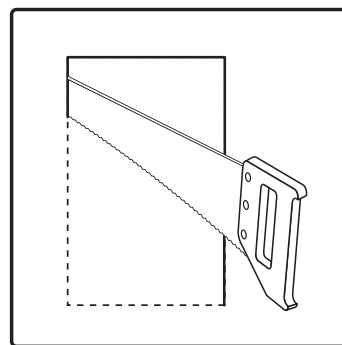

FIGURE 4
- Carefully cut the hole with the appropriate cutting tool for your wall material. Start the hole by drilling a hole inside of your tracing (with the drill-bit touching the line). Use this hole to insert the saw or knife and begin cutting [figure 4].